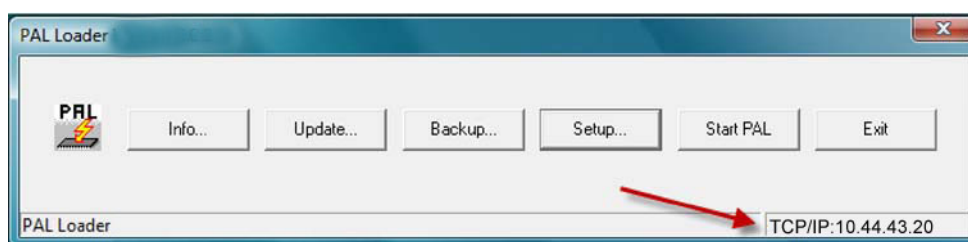

Fig. 97: PAL Loader startup dialog
2. Double-click the PAL Loader icon to open the startup dialog (→ Fig. 97, page 162).